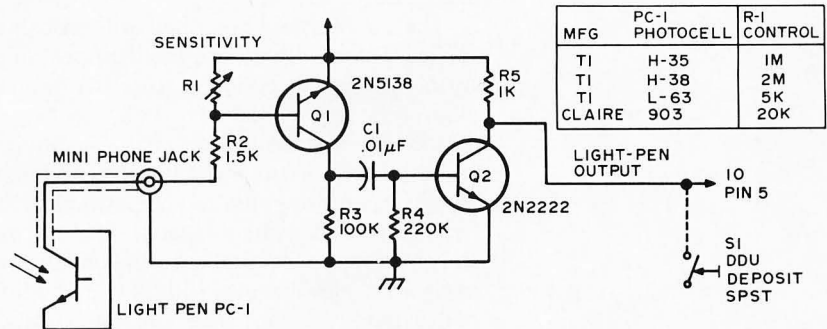
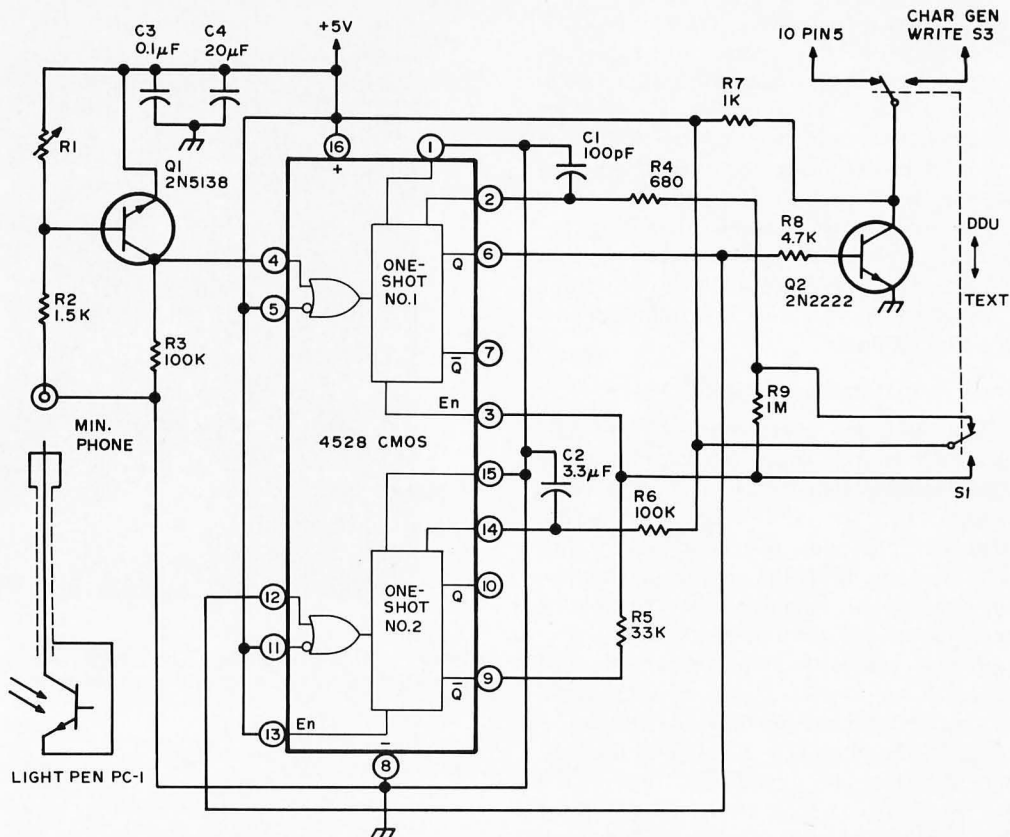

Figure 1: The simple version of the light pen can be constructed according to this schematic. All resistors 1/4 W.
Figure 3: By adding a pair of oneshots to the circuit, the ability to draw pictures is improved through a short data lockout period which avoids smearing.
Figure 1 illustrates the simple light pen circuit. With proper adjustment of the sensitivity control (and possibly the brightness control), the photocell in the tip of the light pen will sense the moment in time when a dot is written at the particular location of the light pen. At this instant, the photocell will conduct, biasing the PNP transistor which causes a short pulse to be conducted through capacitor C1 to the base of the NPN transistor Q2. If the pulse is greater than .6 V, this transistor will be driven into saturation, and the light pen output will fall to .3 V. This output line is connected to pin 5 of the oscilloscope graphics unit which writes a 1 or a 0 bit (dot or no dot) at precisely the instant that the dot position touched by the pen was addressed.
The circuits just described will probably suffice if you wish to use the light pen only for occasional correction of data. If you plan extensive and detailed work, such as cartooning or statistical data entry, a modification of the circuit will allow you to tailor the light pen's response to your own particular needs and system speed. The circuit shown in figure 3 is similar to the one shown in figure 1. However, it includes two oneshot multivibrators (contained in one CMOS DIP). The first one produces a constant amplitude pulse of approximately 200 nsec duration which is sufficient to bring about the storage of a 1 or 0 bit in most versions of the 2102 memory (ICs 11 to 14 in the oscilloscope graphics interface). The second one delays the generation of another write command for .25 sec, giving the operator sufficient time to withdraw the pen from the screen or move to a new location, before a double or multiple dot can be drawn. Once the two pulses have been timed in accordance with a given system speed and the operator's writing speed, it becomes very easy to draw detailed images with the light pen.
In figure 3 resistor R4 and capacitor C1 control the length of the write pulse, and resistor R5 and capacitor C2 control the wait time. For the 4528 CMOS oneshot, the time of the pulse (T) measured in microseconds is a function of resistance (R) and capacitance (C) measured in ohms and microfarads, respectively, as follows:
The circuit shown in figure 3 also includes a switch and connections for using the light pen with the author's text display and editing system. Exact details for this connection are not given here, as they will differ with the type and construction of the text display system. I found, however, that the shift register type memories commonly used in these systems require a much longer write pulse than is necessary for the 2102 memories. It was also desired to eliminate the holdoff circuit (second oneshot) for this application. These changes are accomplished with switch S1 and resistors R9 and R5. If these features are not desired, it is recommended that R9 be replaced by a wire, R4 changed to 4.7 kΩ and C1 to 20 pF.
As is shown in the table accompanying figure 1, several different types of photocells are suitable for use in the light pen. The Texas Instrument (TI) type H-35 or H-38 is a very small device with a built in lens. These were originally designed for use in punched tape and card readers, thus the small size. Their size, sensitivity, and restricted field of view make them ideal for this application. The high impedance of these devices, however, makes them somewhat slow for this application, particularly at low brightness levels. The slow response time limits their use at the faster scan rates, and complicates the smearing mentioned earlier. Another device, the L-63 type which is available from Radio Shack (276-140 infrared detector), was found to be considerably faster. Being a much larger device, however, it has a larger field of view, and much of its speed advantage is lost to optical smearing. Models of both photocell types were built and tested by me, with only slight preference for the H-35. With some careful masking, and possibly the addition of a small, short focal length lens (e.g., Edmund Scientific number 12050 cylinder lens, or a small drop of clear epoxy), this photocell will probably perform better than the H-35 for this application. The Claire types 903 and 903-L were tried with only fair results.
If you are using the simple circuit of figure 1, the parts can be assembled on a small turret terminal board available at most electronic supply houses. This assembly is shown in photo 6. The circuit of figure 3 can be assembled in the same manner with the addition of a 16 pin DIP socket. R4, R5, C1 and C2 should be mounted in such a manner that they can be changed easily (Cambion 601-1512 component clips are useful here).
Photo 7: Using the improved circuit of figure 3 reduces much of the over-writing of multiple dots which occurred using the original circuit of figure 1. This is an enhance mode picture.
Photo 8: This illustrates a cartoon drawn using the erase mode of operation with the improved circuit of figure 3.